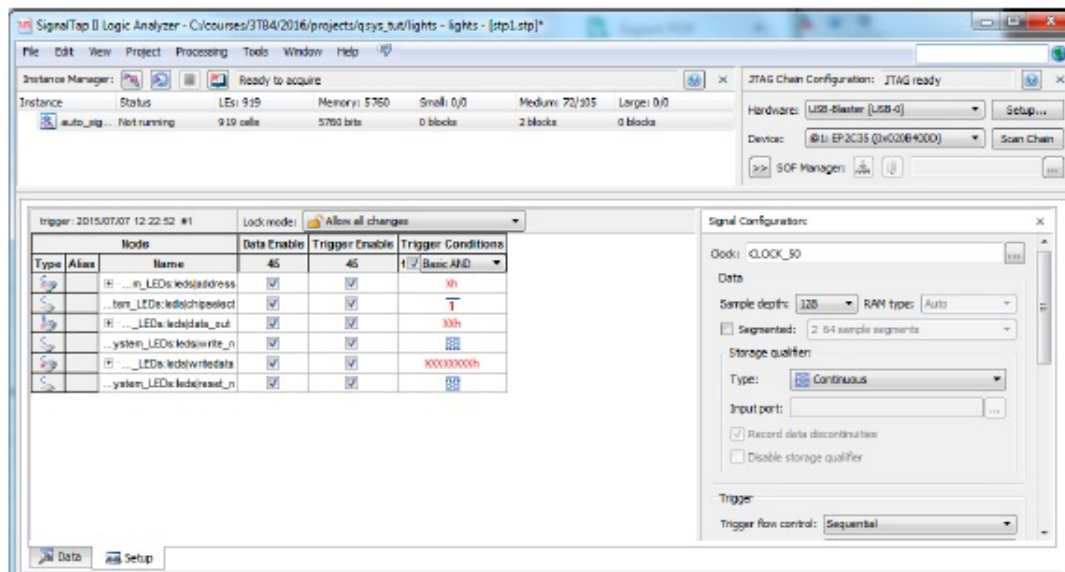

Figure 2: SignalTap Setup
6. Enable triggering for the signal chipselect, and set the trigger condition to high. Your setup window will look similar to that shown in Figure 2.